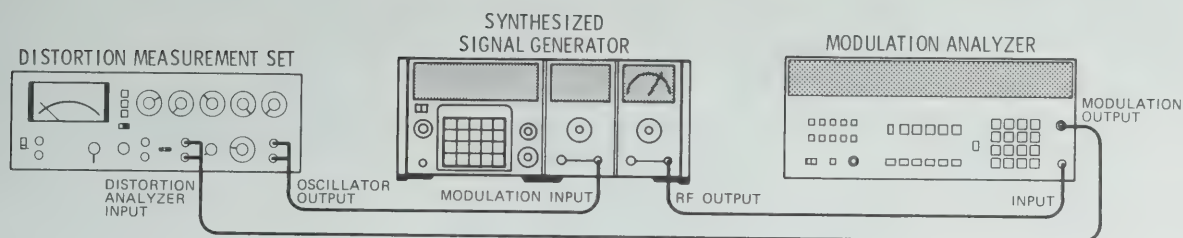

Figure 4-11. Amplitude Modulation Distortion Test Setup
1. Connect the equipment as shown in Figure 4-11.